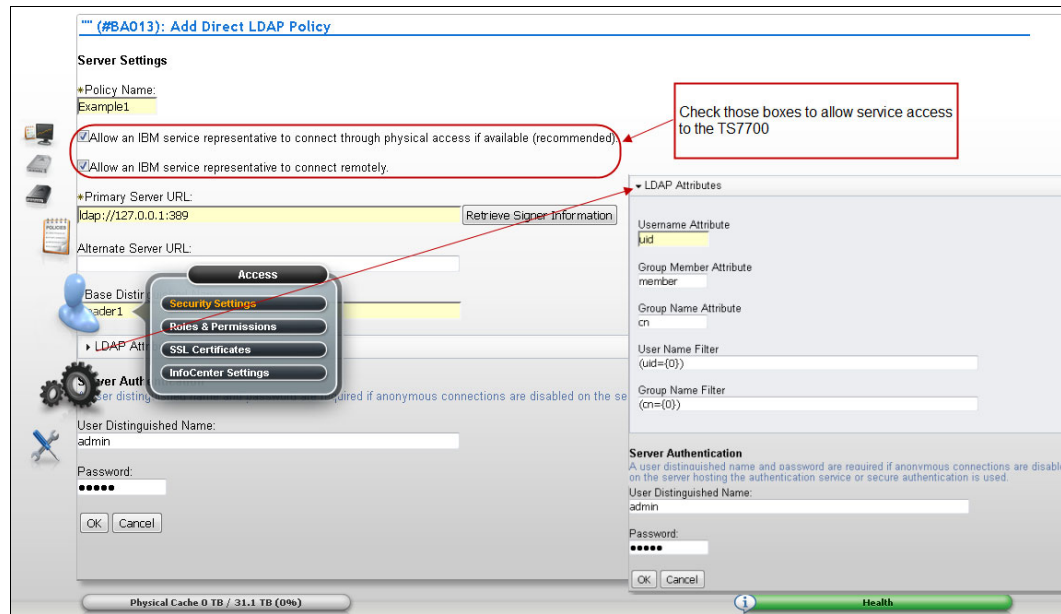

Figure 9-114 Adding a Direct LDAP Policy
- Use the options in Figure 9-114 to grant to the IBM SSR a local or remote connection for service support.